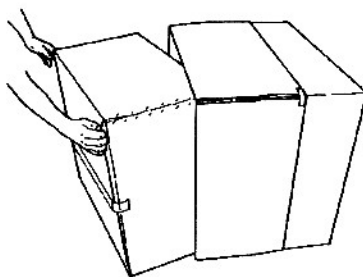

Fig. 1
3. As demonstrated in Fig. 1, "scoot" the smaller inner box from the outer box. Set the outer box aside and save it (along with boxes and corner pads) in case your Sawsmith 2000 should ever need to be shipped again.